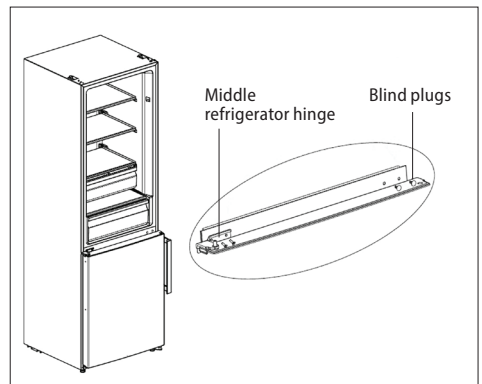

Fig. 6
14. Place the freezer door on the bottom hinge of the freezer and install the middle hinge of the refrigerator (Fig. 6).